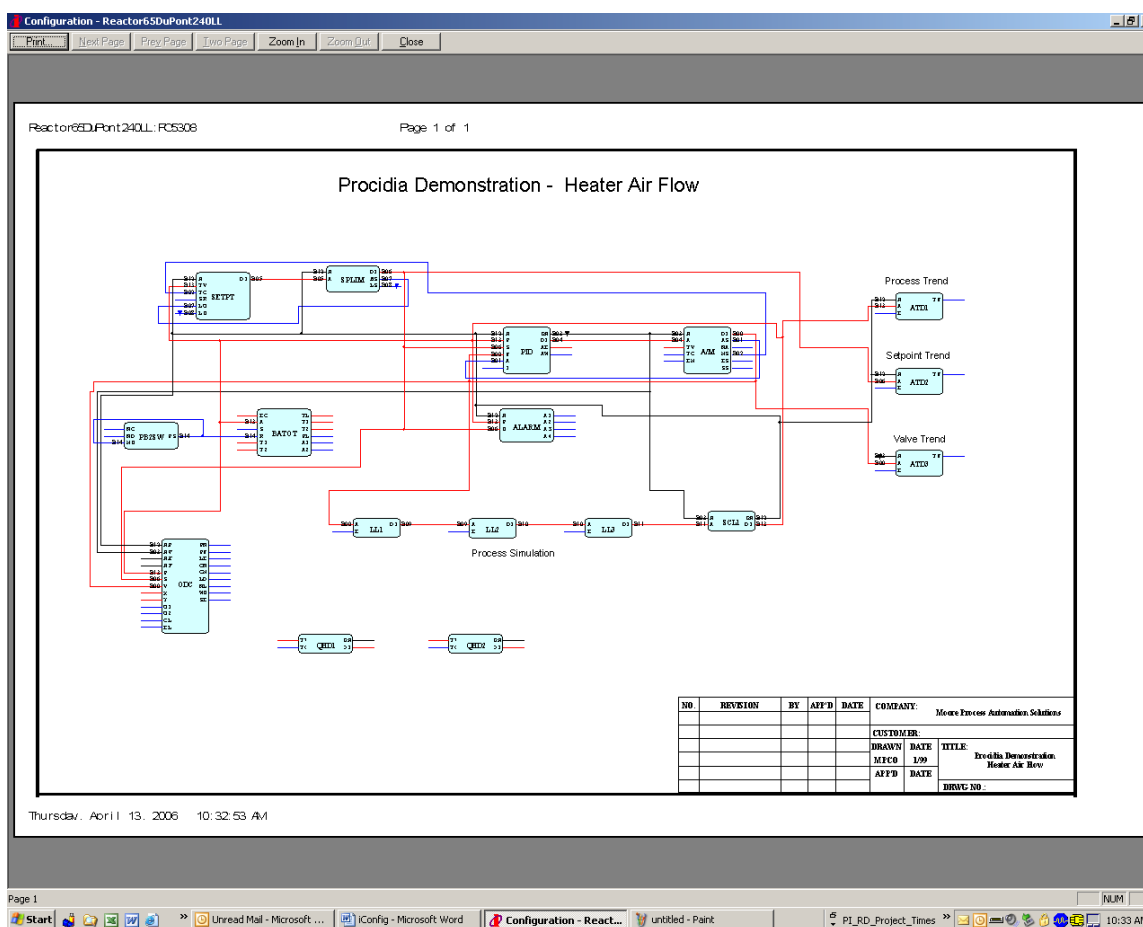

Figure 7-19 Print preview mode
1. Select **File > Print Preview**. A preview of the printed view is displayed on the screen. See Figure 7-19. The preview page displays several buttons: